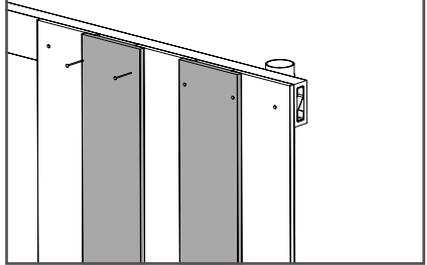

Fig. 45
2. Overlap the boards at corners. After you turn a corner, the edge of the first board in the new run should be flush with the face of the final board in the previous run. As shown in Fig. 45.